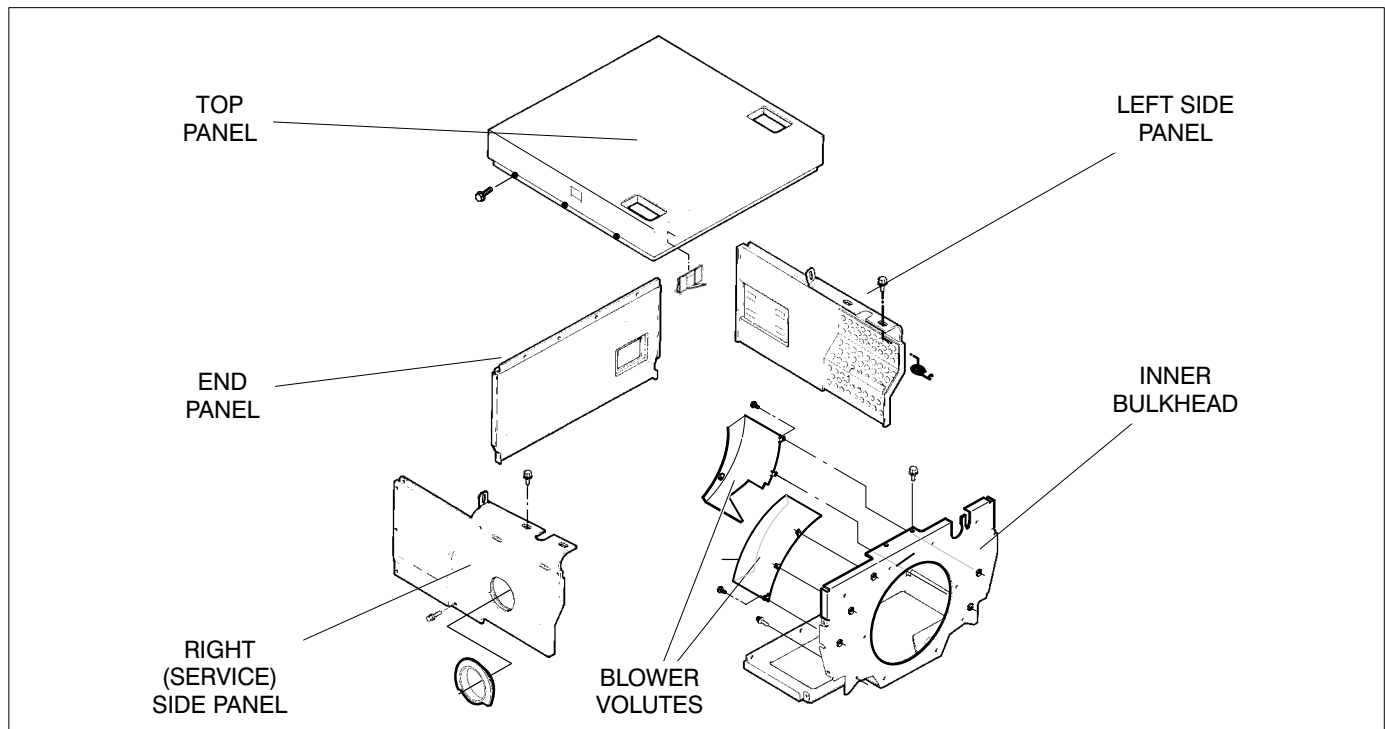

FIGURE 10. COOLING SYSTEM PANELS
These are air-cooled gensets. The centrifugal blower on the crankshaft draws cooling air across the fins on the engine cylinders and heads and discharges the warm air downwards through the opening in the base pan. Figure 10 shows the housing panels which direct the air flow.
**⚠ CAUTION** *The engine will overheat and can be damaged if it is operated without all the cooling system panels in place (Figure 10).*